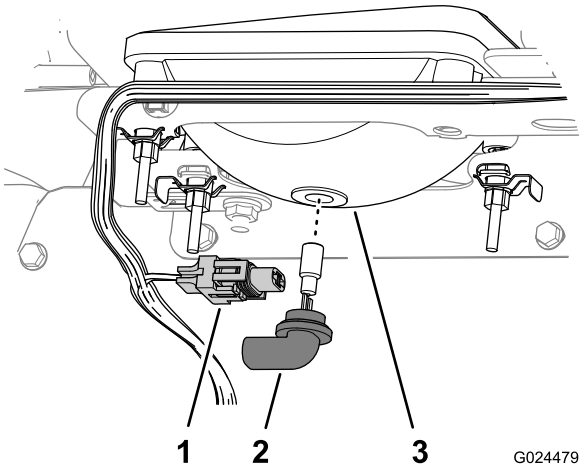

Figure 50
3. Disconnect the electrical connector for the harness from the connector of the lamp assembly at the back of the headlight housing (Figure 50).
4. Rotate the lamp assembly 1/4 turn counterclockwise and moving it rearward, out of the headlight housing (Figure 50).
5. Insert the new lamp assembly and headlight housing and align the tabs in the lamp assembly with the slots in the headlight housing (Figure 50).
6. Secure lamp assembly by turning it 1/4 turn clockwise (Figure 50).
7. Connect the electrical connector for the harness to the connector of the new lamp assembly (Figure 50).